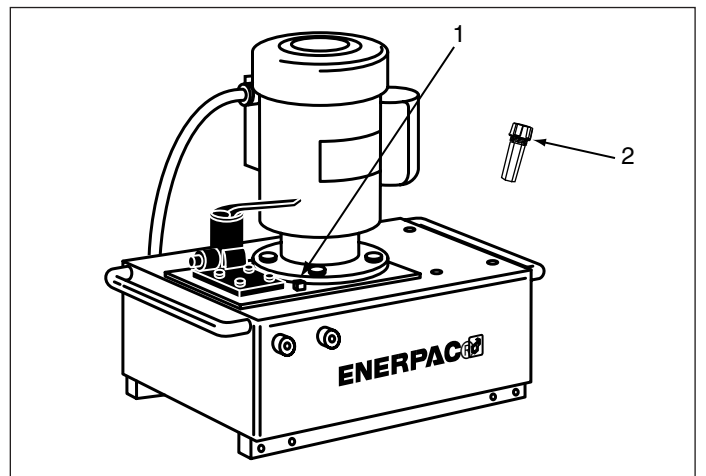

Figure 8
2. Install the oil level. (See Figure 8.)